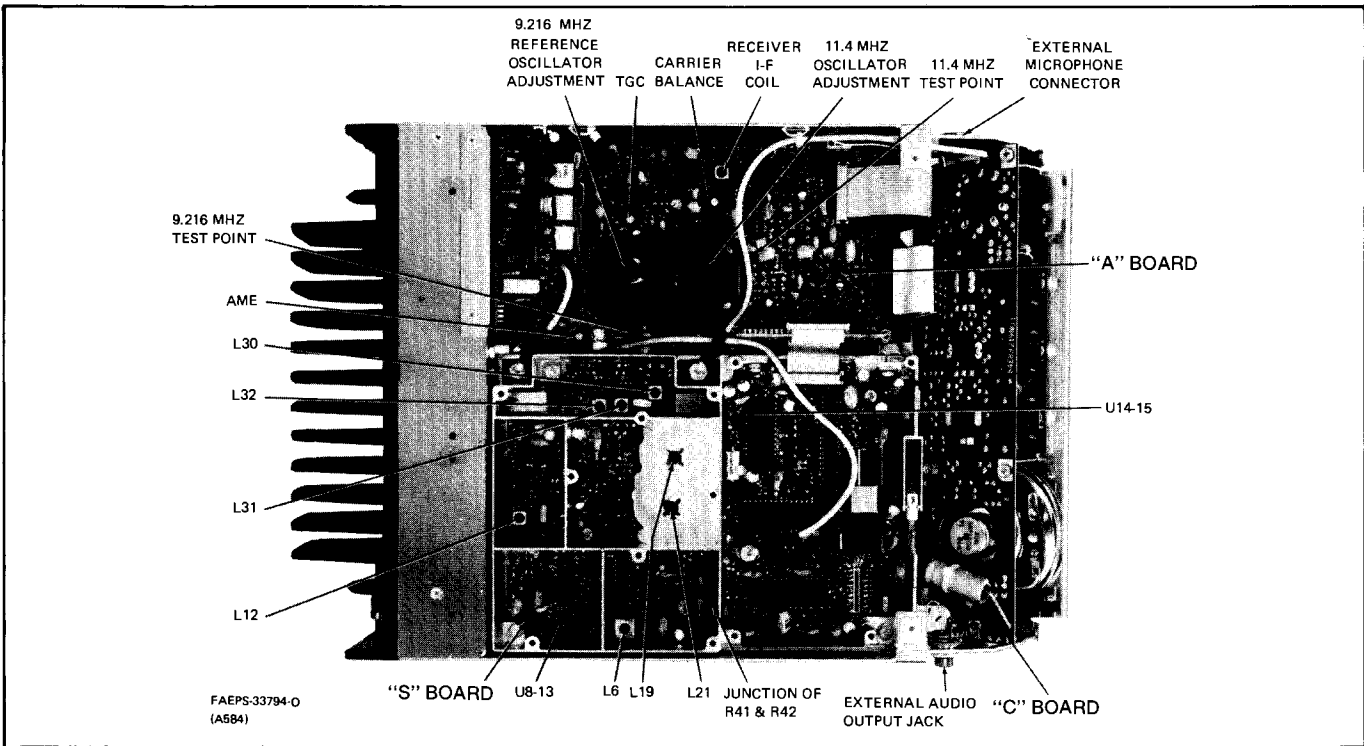

Figure 1. "A" and "S" Board Adjustments
Step 2. Connect a frequency counter through a 0.1 uF coupling capacitor to the junction of R78 and C6 on the "A" board (see Figure 1).
Step 3. Remove the plastic access plug from the oven insulating cover over the i-f oscillator section of the "A" board (see Figure 1). Using an insulated tuning tool, adjust the piston trimmer capacitor for a reading of 11.400000 MHz  $\pm 1$  Hz.
Step 3. Remove the plastic access plug from the oven insulating cover over the reference oscillator section of the "A" board (see Figure 1). Using an insulated tuning tool, adjust the piston trimmer capacitor for a reading on the frequency counter equal to the carrier frequency  $\pm 1$  Hz.
(Refer to Figures 1 and 4 for location details.)
Step 3. Connect a frequency counter through a .01 uF coupling capacitor to the 9.216 MHz test point node located near C82 on the “A” board (see Figure 1).
Step 4. Remove the plastic access plug from the oven insulating cover over the reference oscillator section of the “A” board (see Figure 1). Using an insulated tuning tool, adjust the piston trimmer capacitor for a reading of  $9.216 \text{ MHz} \pm 2 \text{ Hz}$ .